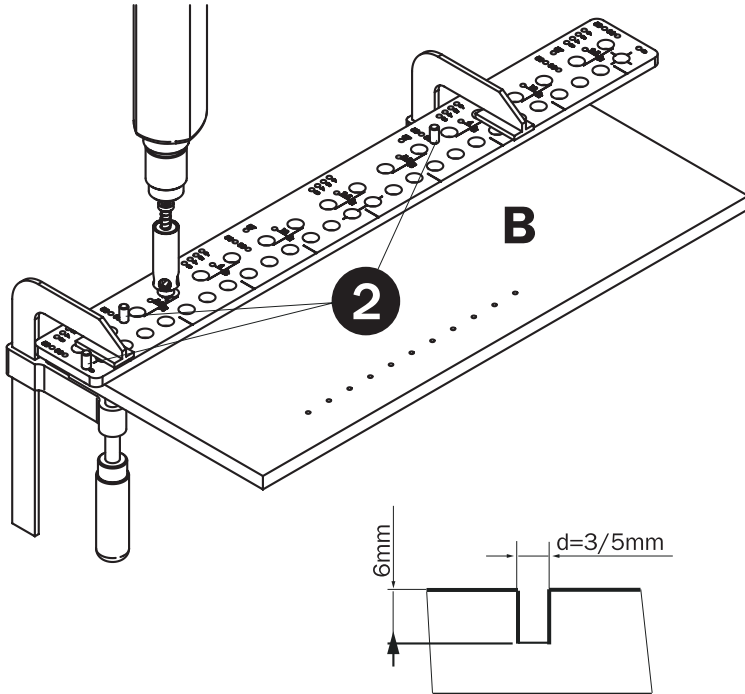

Fig. 9
Insert two stops (pos. 2) in the 50 holes and one (pos. 2) in the 0 hole at the template edge. Position the **CMT900** on the work piece so that the two stops in the 50 holes are up against the work piece's front edge and the stop (pos. 2) in the 0 hole is up against the upper edge of the work piece. Use the 50 holes to position the shelf supports at 50mm from the front edge. Use the **CMT400-1** adaptor chuck with a drill bit for blind holes according to the shelf support diameter (**Fig. 9**).